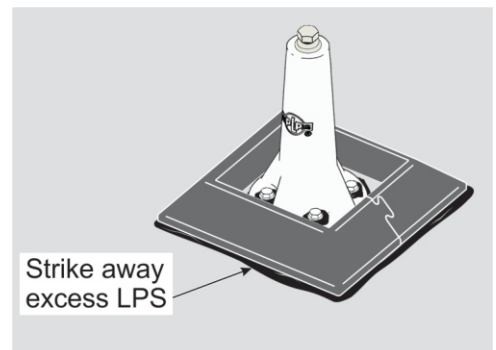

Figure 2-5: Strike/Blend LPS Sealant around perimeter
- G. Strike away/blend the LPS bead around the perimeter of the Pocket, creating a uniform seal all the way around between the Pocket and roof substrate. (See Figure 2-5)